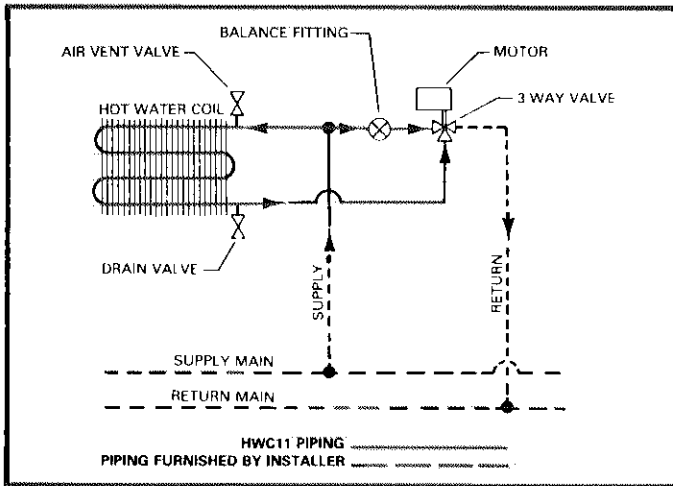

FIGURE 20
- 1 - The factory installed hot water option fits into the heating section. The coil is equipped with an air bleed valve and a drain valve. Figure 20 illustrates the system piping.